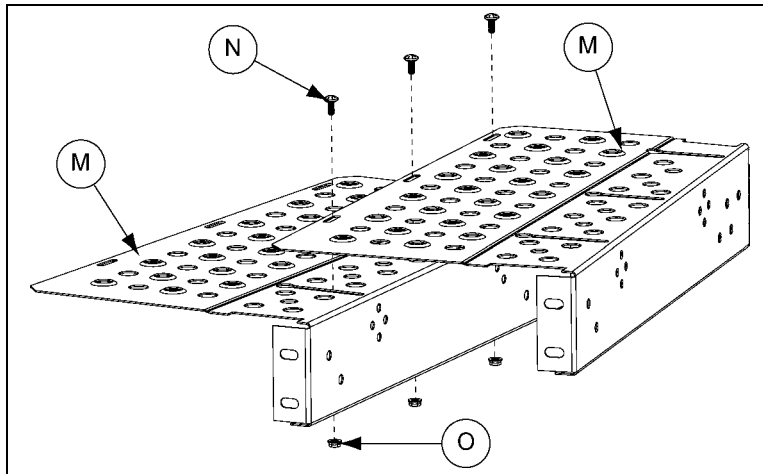

Figure 3D
3. Attach the planks (M) together using truss head bolt (N) and nut (O). Do not tighten yet to allow for adjustment. (See Figure 3D.)